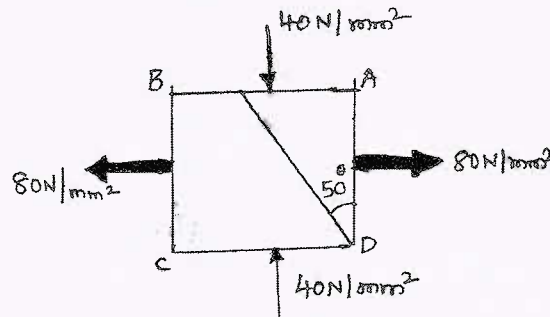

Fig.Q3(b)
- b. The state of stress in a strained material is as shown in Fig.Q3(b). Determine the normal, tangential and resultant stresses on plane DE by Mohr's circle method. Also determine the direction of resultant stress. (10 Marks)